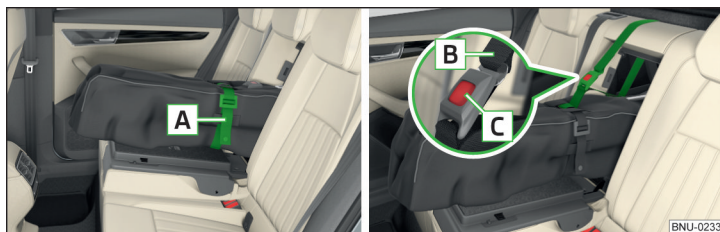

Fig. 124 Tighten ribbon / secure bag
- Tighten the strap **A** around the skis **in front of** the bindings » Fig. 124. The strap must hold the skis tight.